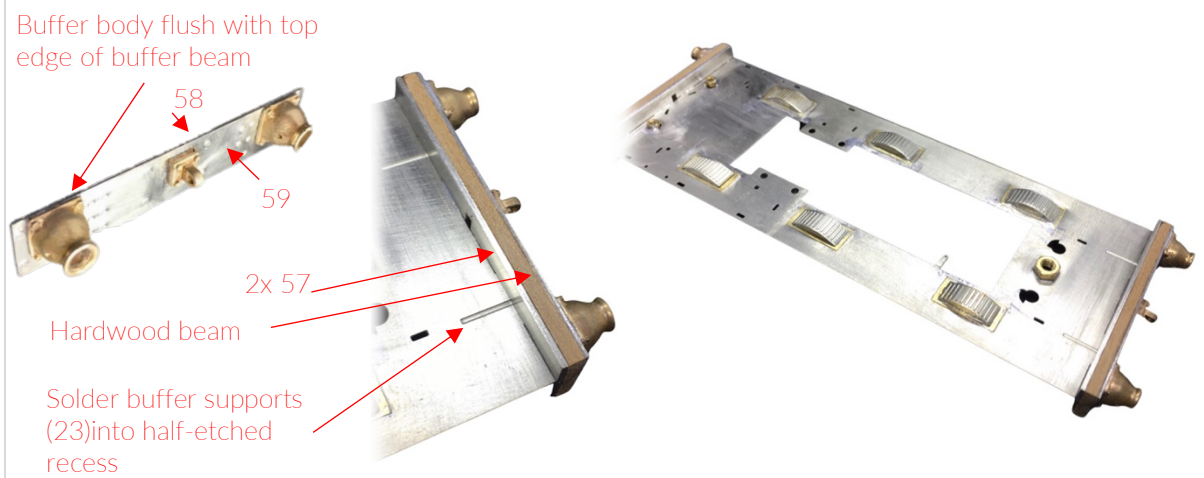

Fig 2.4 - Buffer beams. Front and back buffer beams are identical
2.4 – Buffer beams. On the prototype, the buffer beams were two steel plates with a wooden beam sandwiched in between. Sweat together 2 of the rear portion of the buffer beam plates (57), taking note of which edge is the top (see arrow on 57), and ensuring the holes are exactly aligned. Sweat together one each of parts 58 & 59 to form the front portion of each buffer beam. Solder the buffer housings (#C04) and the coupling chain bracket (#C05) to part 59. 2mm thick hardwood is provided for the middle portion of the buffer beam. Holes will need to be drilled in this to accommodate the back of the buffer housing castings - use the holes in the front plate (58 & 59) to mark the position of holes onto the wooden strip and drill a 5mm diameter hole. Go slowly, and maybe in incremental stages so it doesn't split. Use superglue or epoxy to stick the front plate to the wooden strip. Cut the wooden strip to slightly oversize and sand the bottom edge and one side edge flush with the front plate. Attach the rear plate with superglue (arrow inside the buffer beam and pointing up), matching up the sanded bottom and side edges. Sand the remaining side edge and top edge flush. Repeat the above for the 2nd buffer beam. As they are identical, it doesn't matter which you use for the front or back. Use the slots in the rear buffer beam plate (57) to locate onto the tabs at each end of the footplate (48). Solder in place, ensuring they are square to the footplate. Solder buffer beam supports at the front by adding part 23 (x2) into the recesses on the footplate, vertical side against the buffer beam. (Fig 2.4)